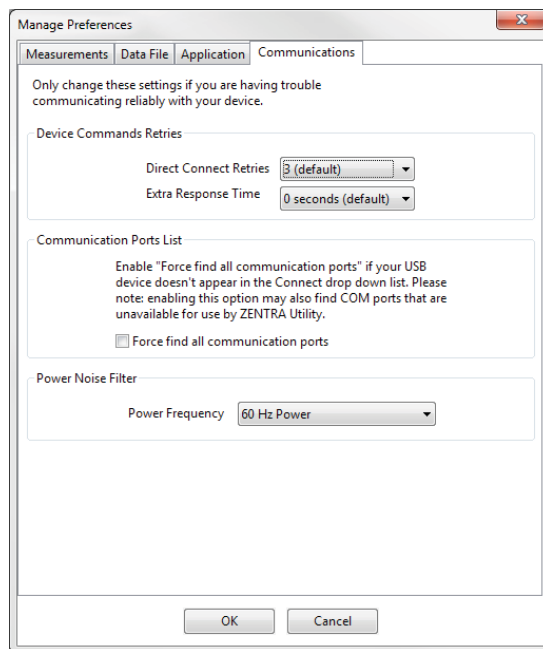

Figure 16 Communications tab
- Communications tab (Figure 16):